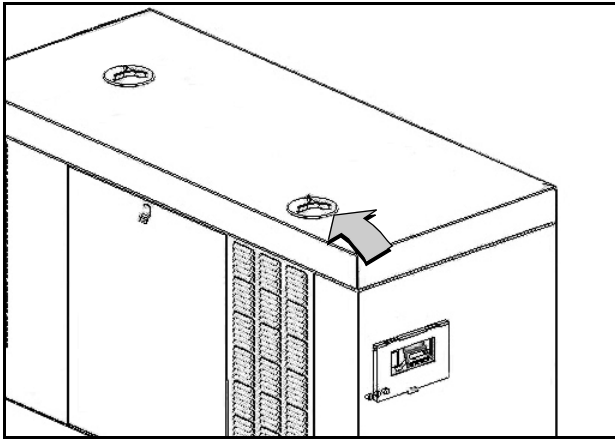

Figure 8-2. Access Oil Supply Tank
1. See Figure 8-2. Rotate plastic cover counterclockwise and remove from top of enclosure.